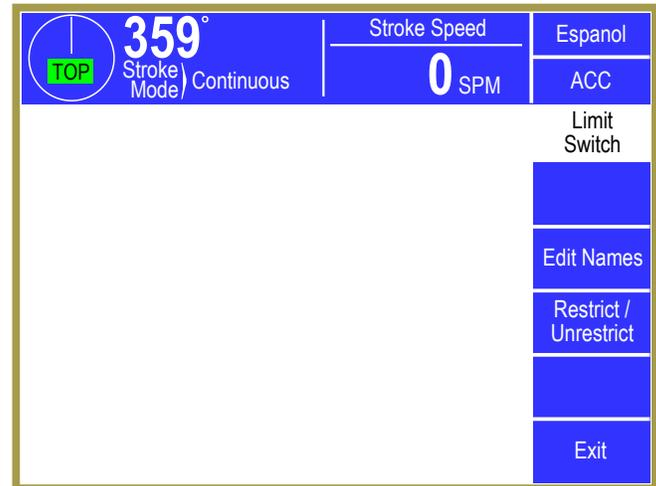
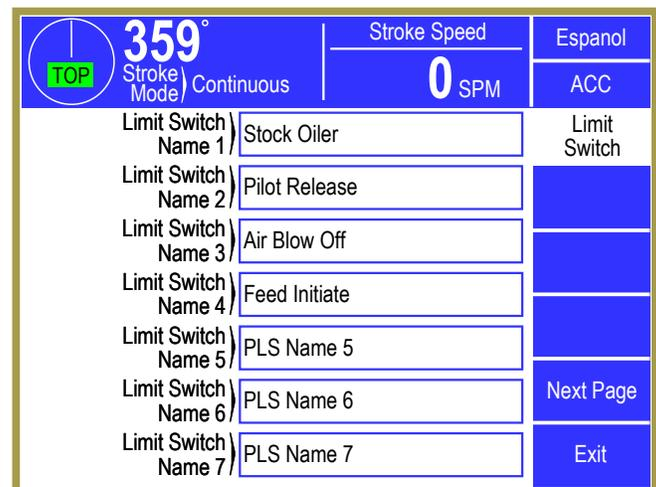
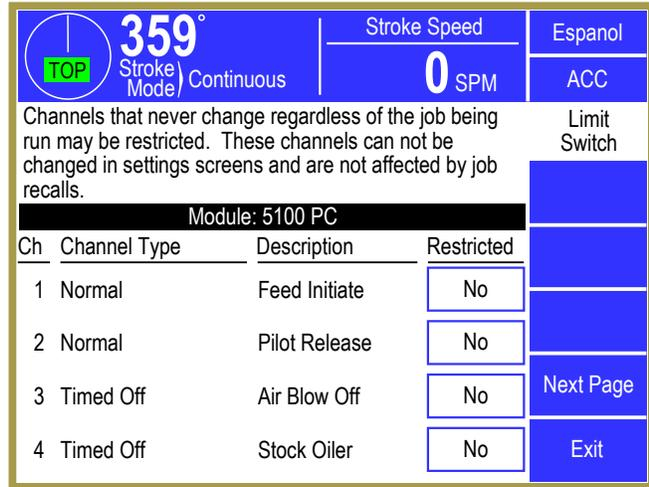

Figure 102: PLS Configuration Main Screen
Figure 103: PLS Edit Names Screen
Figure 104: PLS Restrict/Unrestrict Screen
- After the code is entered correctly, the screen of Figure 102 will be displayed.
Press the **Edit Names** softkey (shown in Figure 102) to display the screen of Figure 103. Use the **Previous Page** and **Next Page** softkeys to page through the entire list of 64 names. Touch inside the blue border of a name to change it.
Press the **Restrict / Unrestrict** softkey (shown in Figure 102) to display the screen of Figure 104. Use the **Previous Page** and **Next Page** softkeys, if displayed, to page through the channels.